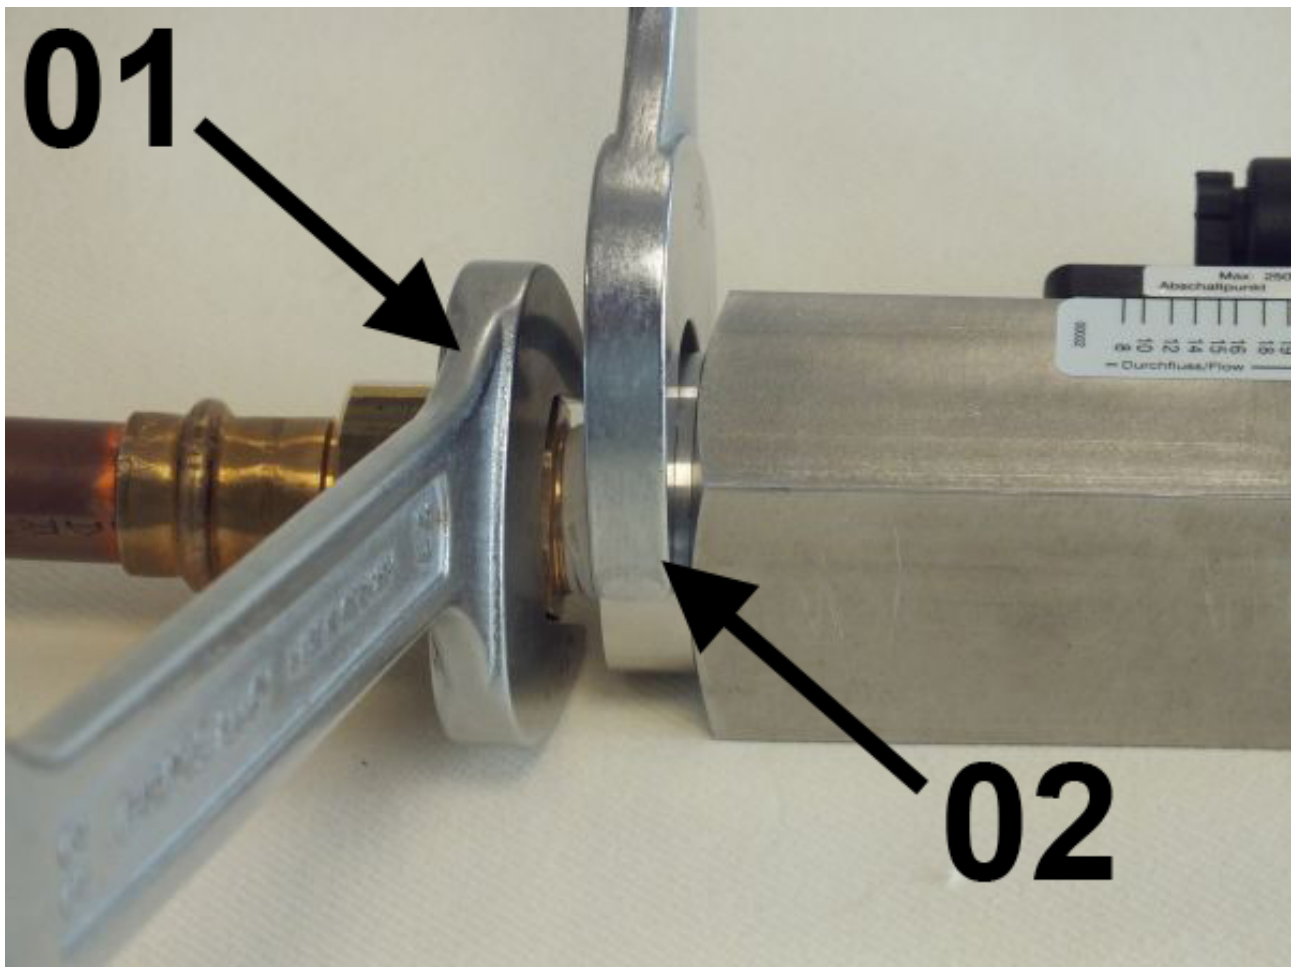

Fig. 12: Screw in the device
3. ➤ Keep turning in the adapter union (Fig. 12/01) while holding the process connection of the device locked (Fig. 12/02) until the connection is tight.